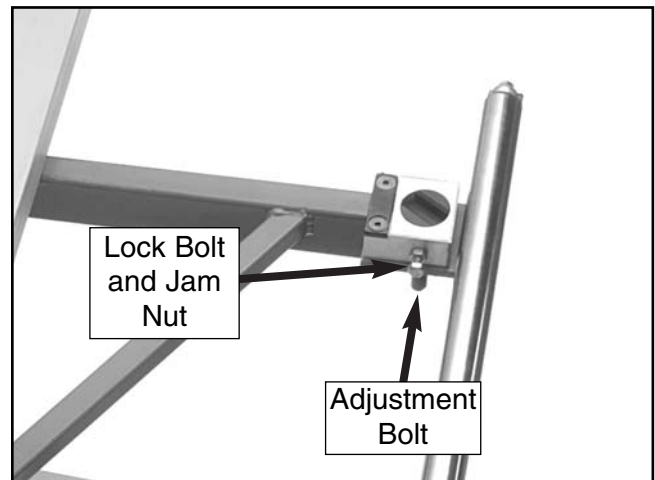

Figure 95. Crosscut fence adjustment mechanism (fence removed for clarity).
6. Loosen the jam nut and lock bolt shown in **Figure 95**.
7. Rotate the adjustment bolt, shown in **Figure 95**, to move the fence in the necessary direction that is needed to make the crosscut fence square.